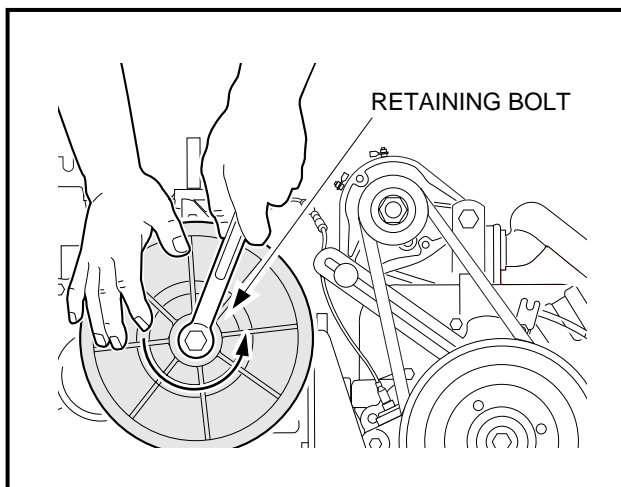

Figure 16-34 Driven Clutch
15. Remove the driven clutch retaining bolt and remove the driven clutch from the unitized transaxle (**Figure 16-34, Page 16-14**).